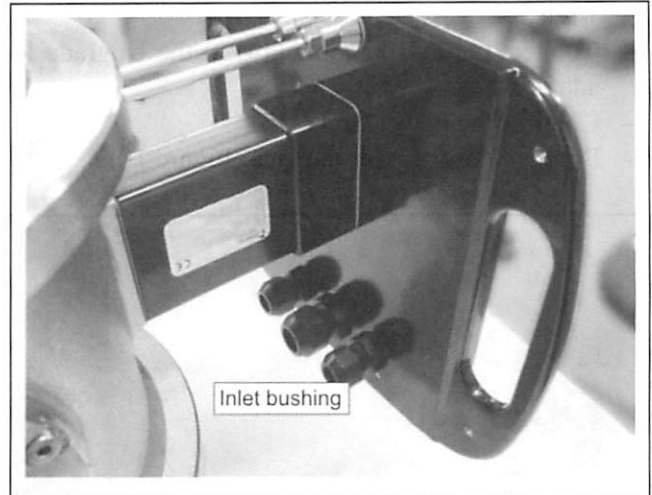

Fig. 8.
- Remove the cable inlet bushing from the base plate (Figure 8).